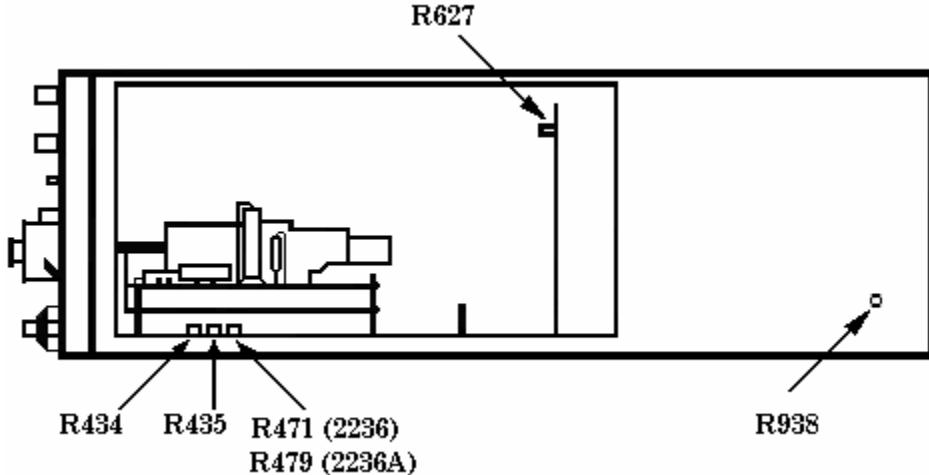

Figure 2. Adjustments – right side view.
- (9) Disconnect digital multimeter.
- (10) Position TI switches as listed in (a) through (e) below:
- (11) Connect oscilloscope calibrator **SOURCE/MEASURE CHAN 1** to TI **CH 1** using  $50\Omega$  feed through termination.
- (12) Set oscilloscope calibrator for a **SOURCE/MEASURE CHAN 1, LEVEL SINE** output of **50 kHz** and 2.2 divisions of vertical display on TI.
- (13) Set TI **CH 1 VOLTS/DIV** switch to **1**.
- (14) Adjust R471 (2236) (fig. 2) or R479 (2236A) (fig. 2) while rotating **A TRIGGER LEVEL** control slowly so that **A TRIGGER** is just able to be maintained (R).
- (15) Set TI **CH 1 VOLTS/DIV** switch to **50m** and adjust **A TRIGGER LEVEL** control fully cw.
- (16) Set oscilloscope calibrator **LEVEL SINE** output amplitude for 5 divisions of vertical display on TI.
- (17) Set TI **CH 1 VOLTS/DIV** switch to **.5**.
- (18) Adjust R434 (fig. 2) so display just solidly triggers on positive peak of signal (R).
(19) Press **TI A TRIGGER SLOPE** pushbutton to **IN:**  and adjust **A TRIGGER LEVEL** control fully ccw.
(20) Adjust R435 (fig. 2) so display just solidly triggers on negative peak of signal (R).
(21) Connect oscilloscope calibrator **SOURCE/MEASURE CHAN 1** to one side of a BNC tee. Connect BNC tee to **TI CH 1** using a X10 attenuator and  $50\Omega$  feedthrough termination. Connect remaining side of BNC tee to **TI EXT INPUT**.
(22) Set **TI CH 1 VOLTS/DIV** switch to **10m** and **A TRIGGER A SOURCE** switch to **EXT**.
(23) Set oscilloscope calibrator for a **LEVEL SINE** output of **50 kHz** and 2.2 divisions of vertical display on TI.
(24) Adjust **TI A TRIGGER LEVEL** control for a stable display.
(25) Set **TI HORIZONTAL MODE A ALT B** switch to **B** and adjust **B TRIGGER LEVEL** control for a stable display.
(26) Set **TI CH 1 VOLTS/DIV** switch to **.1**.
(27) Adjust R627 (fig. 2) so that a display can be maintained by adjusting **B TRIGGER LEVEL** control (R).